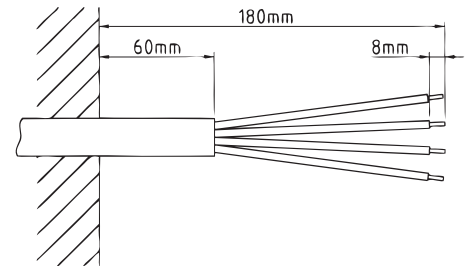

Fig 7
1. Remove inner and outer insulation from the connecting cable to the lengths shown in Fig 7.